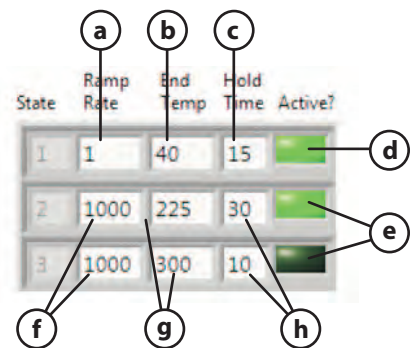

Figure 9: Section of the Program screen
1. Program Channel input fields (Figure 9)